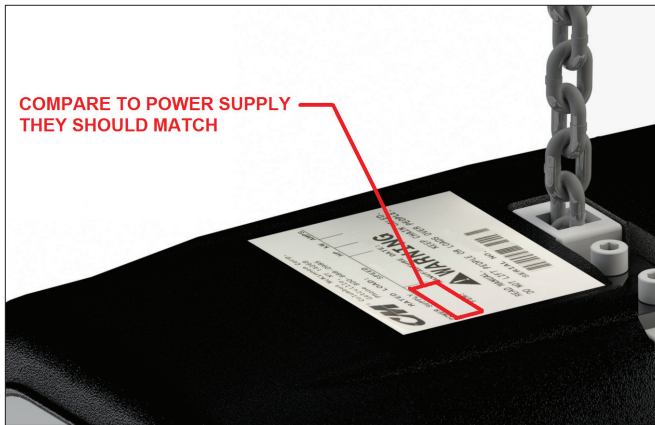

Figure 5 - Nameplate
1. Have ample capacity to prevent excessive voltage drop during starting and operation (refer to Figure 5). When determining the size of branch circuit components and conductors, special consideration should be given to the starting current-amps (approximately three times that shown on the hoist identification plate) and the length of the conductors. As a minimum, the system should be rated for 15 amps and it should have #16 AWG, or larger, wiring.